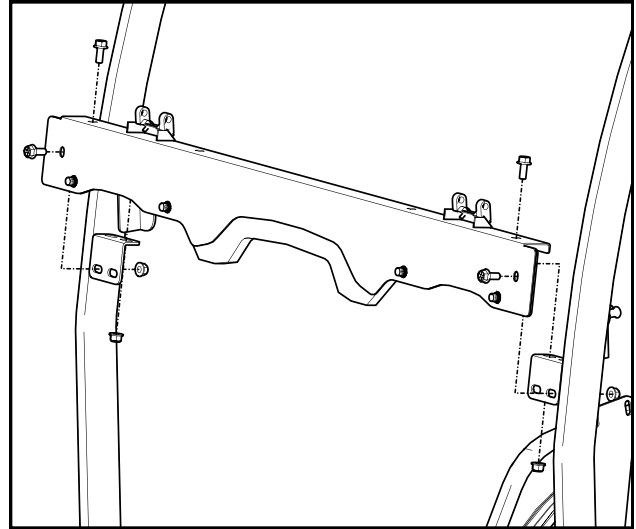

Fig. 6.1 (Cowl)
**6.1** Fasten the cowl to the side frames as shown in Figure 6.1. The foam seal in the center should lay across the dashboard and flex inwards towards the steering wheel.